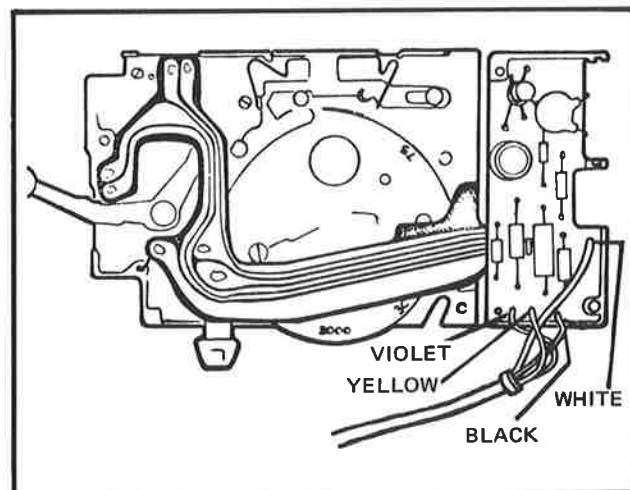

FIG. 4-2 LOCATION OF WIRES ON ELECTRONIC MODULE
- Solder the four leads to the printed circuit board of a new base block and electronic mounting board assembly. Use Figure 4-2 as a guide for the solder locations of the four leads.